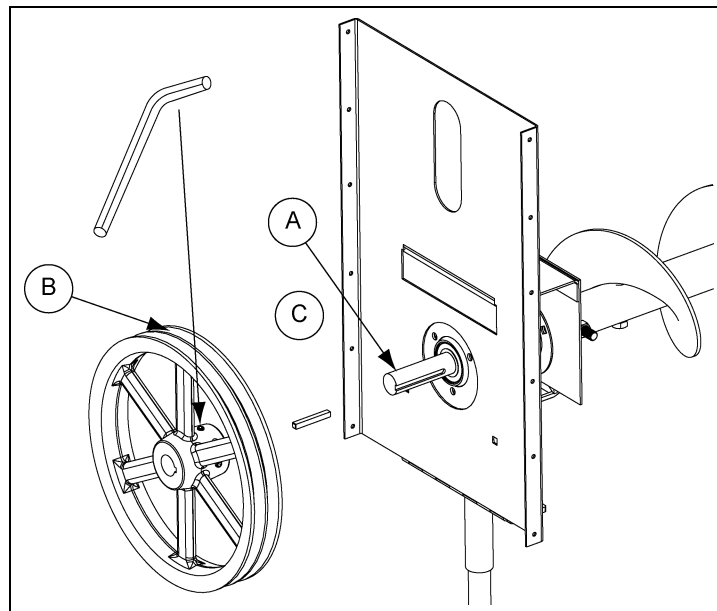

Figure 4AD
Step 6: Fit guard back plate. (See Figure 4AD.)